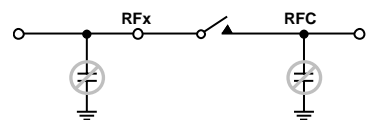

Figure 66. Avoid Having a Large Capacitor Directly Connected to the MEMS Switch
- Avoid connecting large capacitive terminations directly to the switch, as shown in Figure 66. A shunt capacitor can store a charge that potentially leads to hot switching events when the switch opens or closes, affecting the lifetime of the switch.